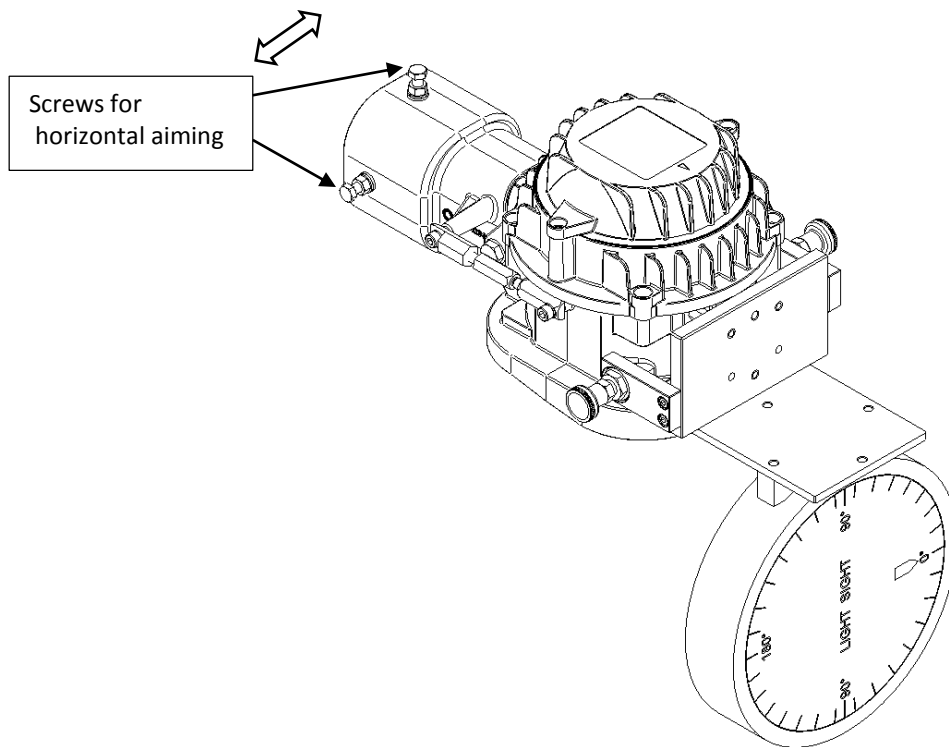

Figure 3: fixture fastening after horizontal aiming
Figure 3: fixture fastening after horizontal aiming	6
4. Fasten the fixture by means of the four screws of the special support (fig. 3).